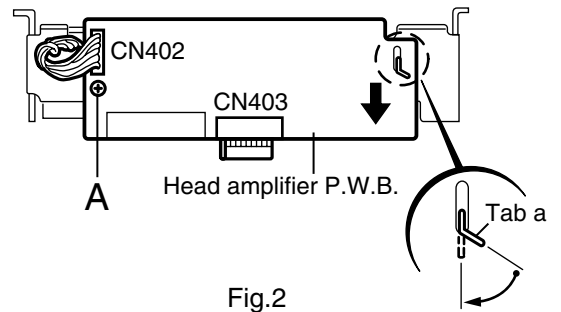

Fig.2
4. Move the tab a as shown in Fig.2 and remove the head amplifier P.W.B. while moving it in the direction of the arrow.